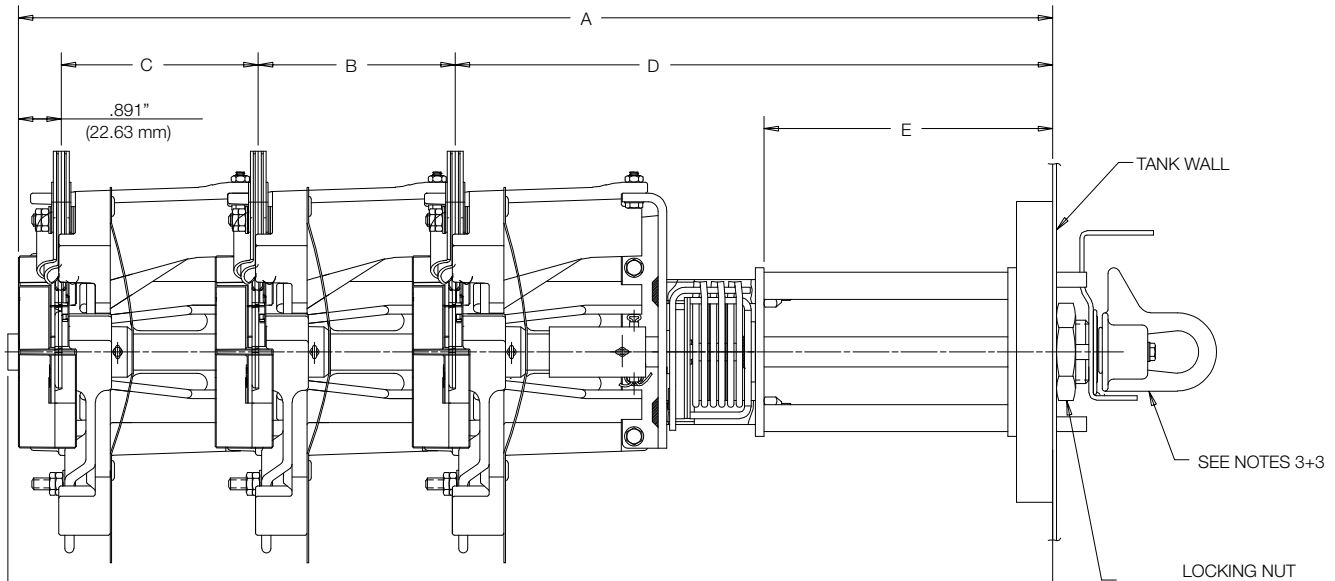

Figure 4. Line illustration with dimensions of sectionalizing switch with vertical "Ring-Mount." (Side view only, refer to Figure 3 for Front View.)
1. Dimensions given in Figure 4 and Table 3 are for reference only.